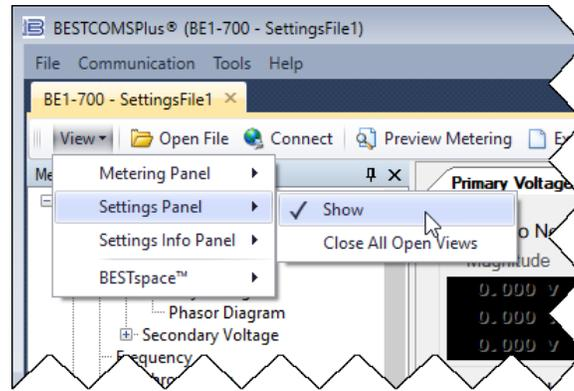

Figure 2-5. View Drop-Down Button
Click the View drop-down button to switch between the Settings Explorer and Metering Explorer or split the view between both. The Settings Info Panel displays settings ranges. A workspace can be opened, saved, or set as default. See Figure 2-5.
- Step 4: Click on the View drop-down button and de-select Show Metering Panel and Show Setting Information. See Figure 2-5. This maximizes the settings workspace.